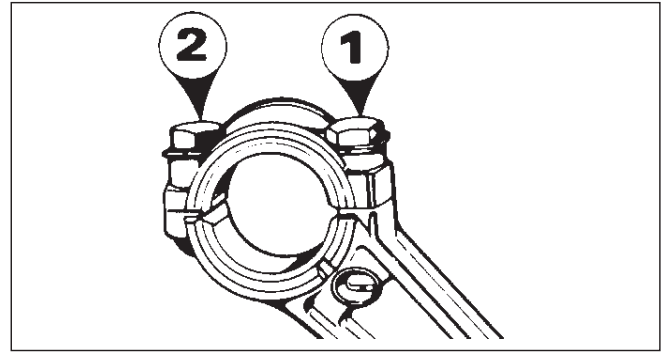

Fig. 53
- Screws should then be tightened by means of torque wrench to figures in table following the sequence shown on Fig 53.